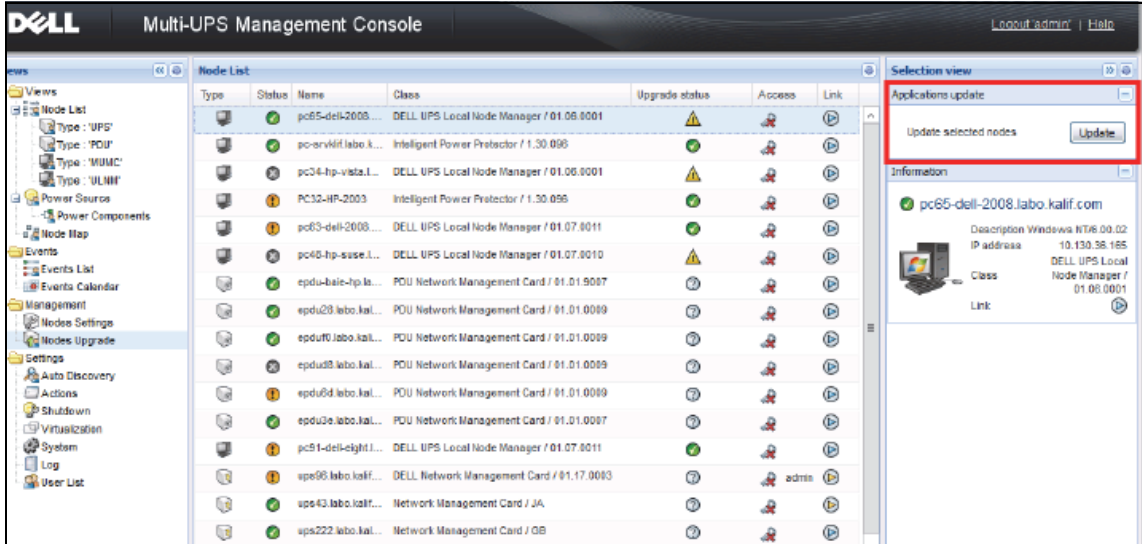

Figure 59. Management / Nodes Upgrade View 2
- Under **Management**, select **Nodes Upgrade**, then select the application (or applications) to upgrade in the Node List (see Figure 59).